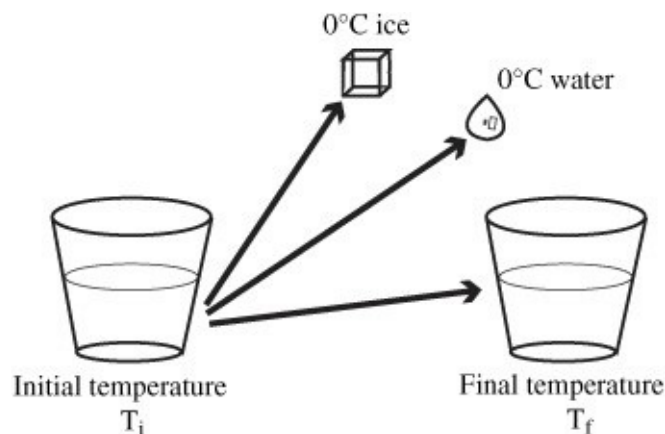

Figure 89-1 Heat is transferred from the water to raise the temperature of the ice and water and to melt the ice.
6. Calculate how much heat was needed to melt the ice through the following steps (see Figure 89-1):